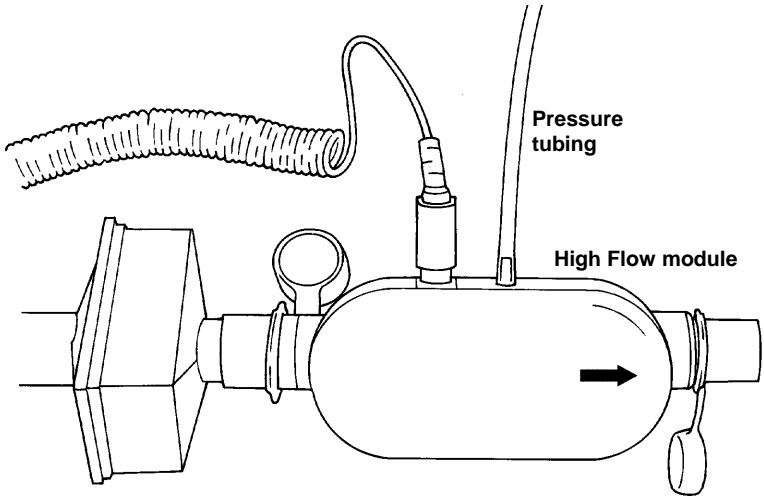

Figure 5. Attaching Pressure Tubing to the High Flow Module
- High Flow module only: install pressure tubing (**Figure 5**).